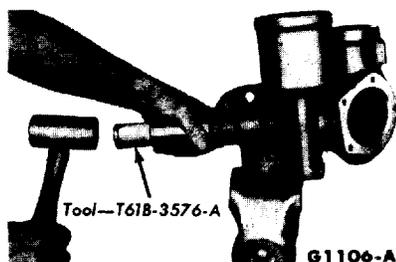

FIG. 20—Lower and Center Bushing Removal
6. Remove the sector shaft lower and center bushings (Fig. 20).